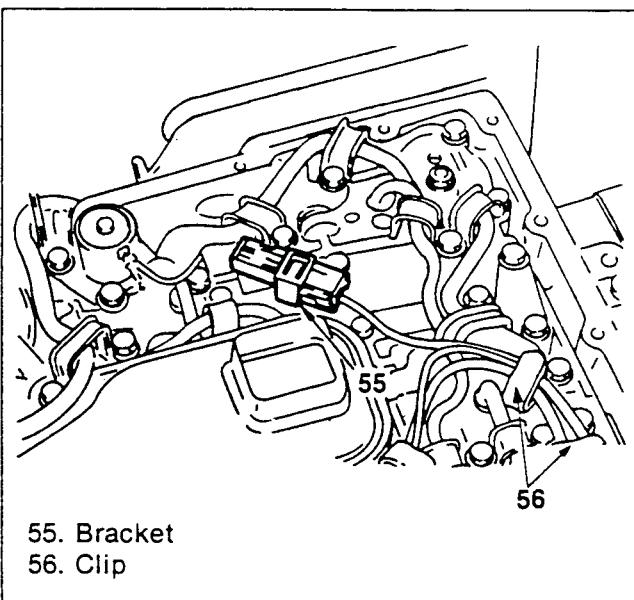

**Figure 296. Valve Body Bolts Location**
4. Install the valve body assembly by aligning the notch of the manual valve to the manual plate boss (figure 296).
- (A) shank 37 mm (1.46 in) 12 pieces
- (B) shank 50 mm (1.97 in) 8 pieces